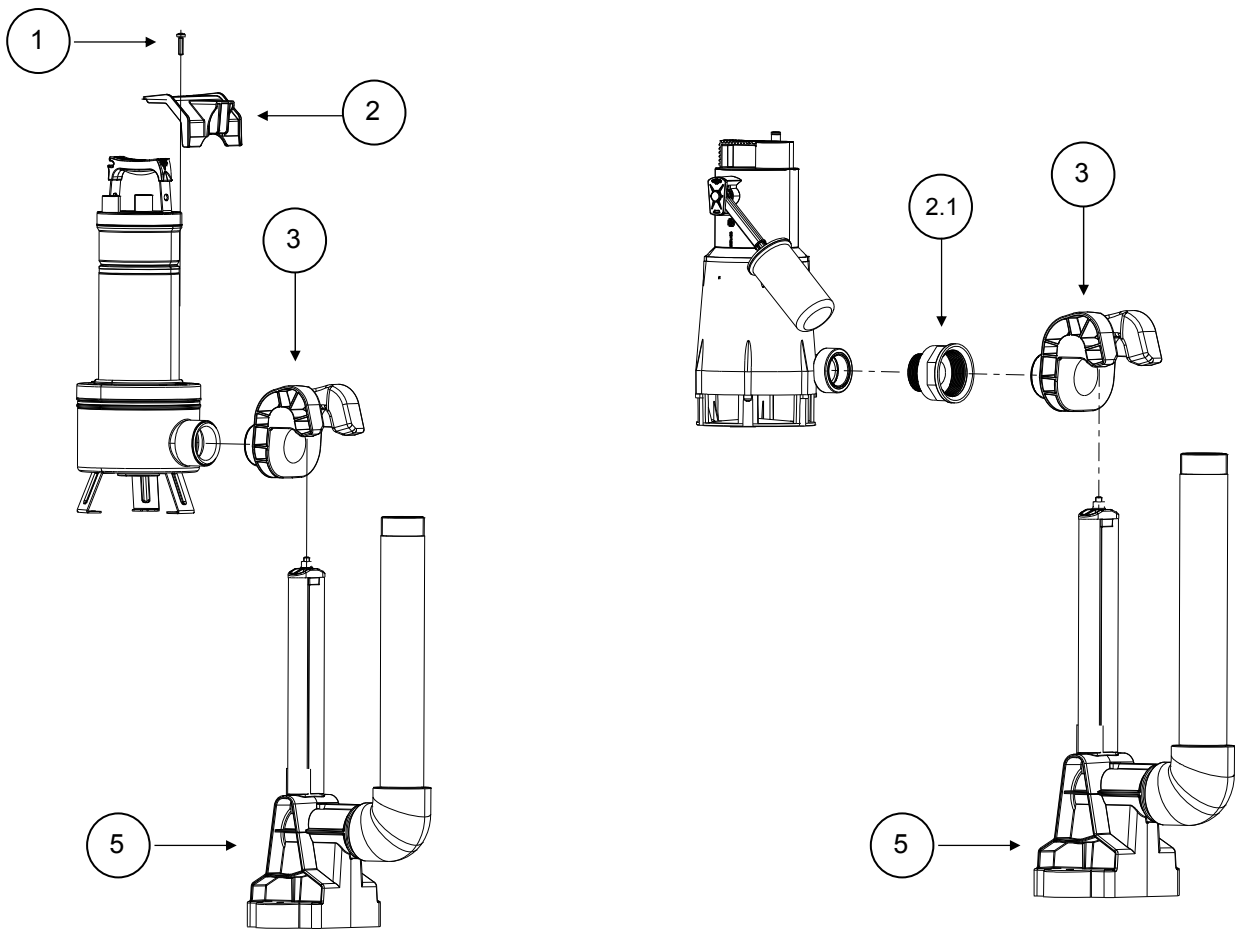

Fig. 7
B. Extract the slide (3) from the coupling foot (5)
C. For FEKA 600: screw the special 2" F-1"1/4 M coupling (2.1), onto the lifting slide (3), and of the pump (see fig. 7)
- the slide (3) onto the pump body (see fig. 7)
- Remove the screw (1) from the pump body
- Assemble the anti-rotation bracket (2) on the slide and then re-tighten the screw (1)